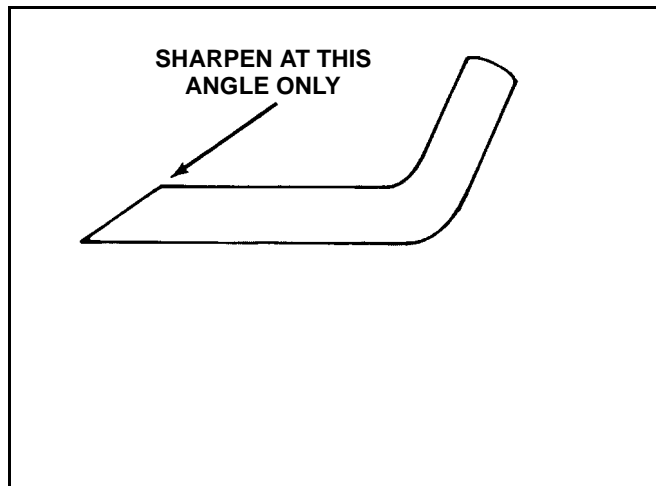

Figure 12
5. **SHARPENING BLADE** - Using a file, sharpen top side of blade and maintain original cutting angle (Figure 12). The blade will remain balanced if same amount of material is removed from both cutting edges.